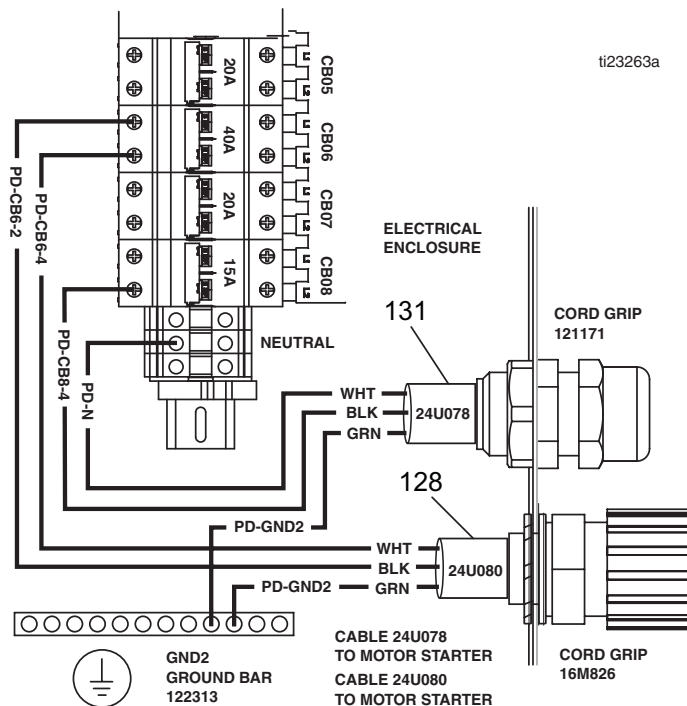

Figure 7 Electrical Enclosure
- Connect cable (131) black wire to CB08 and white wire to Neutral. Connect the green wire to the ground bus bar, GB02 inside the electrical enclosure. See Fig. 7.
- Route all cables along proper routes. See Cable Routing, page 11. Use wire ties (42) to hold against frames.